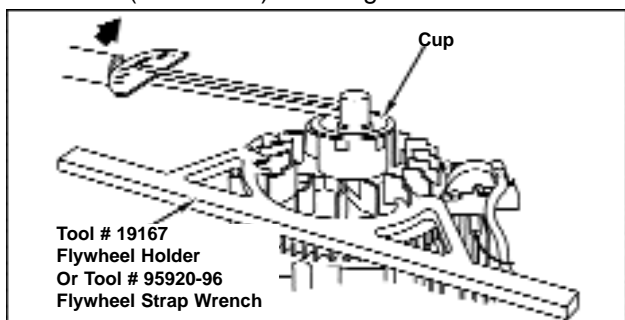

Figure 65 - Torquing Flywheel, Typical Install Magnetron® Armature
5. Using fly wheel holder, torque fly wheel nut to 60 ft.lbs. (81.36 Nm.). See Figure 65.